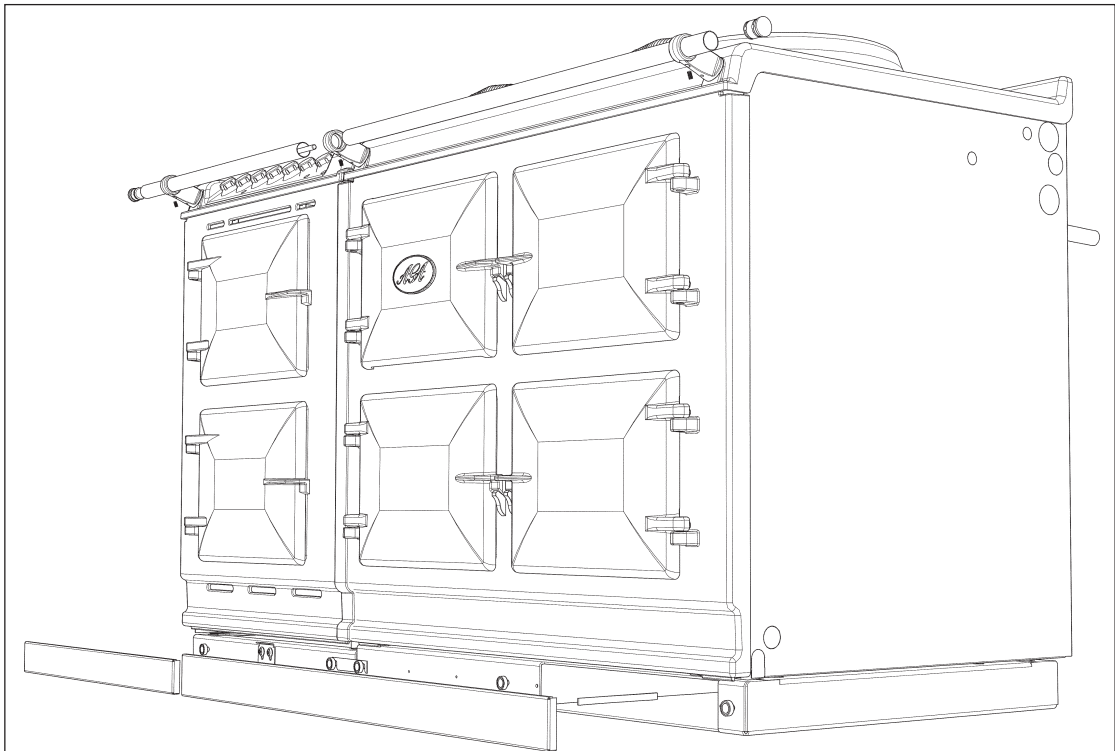

Fig. 15
19. Next, fit allthread stud into the insert located in the one end of the Module handrail, then feed the handrail through the bracket and screw the handrails together. (See Fig. 15).
22. Finally, fit the plinth fascia to the magnets on the front of the plinth, making sure that the right hand side of the Module plinth fascia sits against the left hand side of the AGA Total Control or AGA Dual Control plinth fascia leaving no gap between. Also, make sure that the plinth fascias are centrally located and do not overhang either appliance. (See Fig. 15).